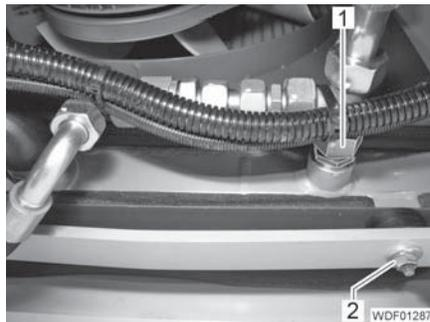

Fig. 71 Underside of the radiator
- Unscrew and close off the hydraulic line (Fig. 71,1).
- Unscrew the 2 nuts (Fig. 71,2).